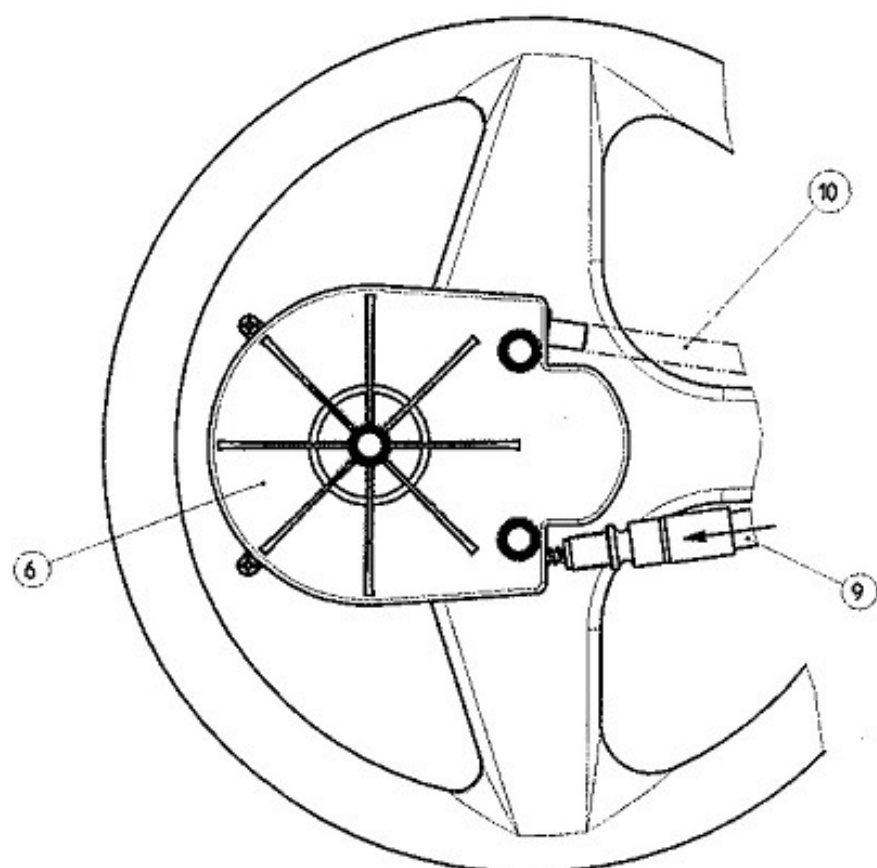

FIG 4
- ☐ In order to mesh the cable with gear wheel (see Fig. 4).